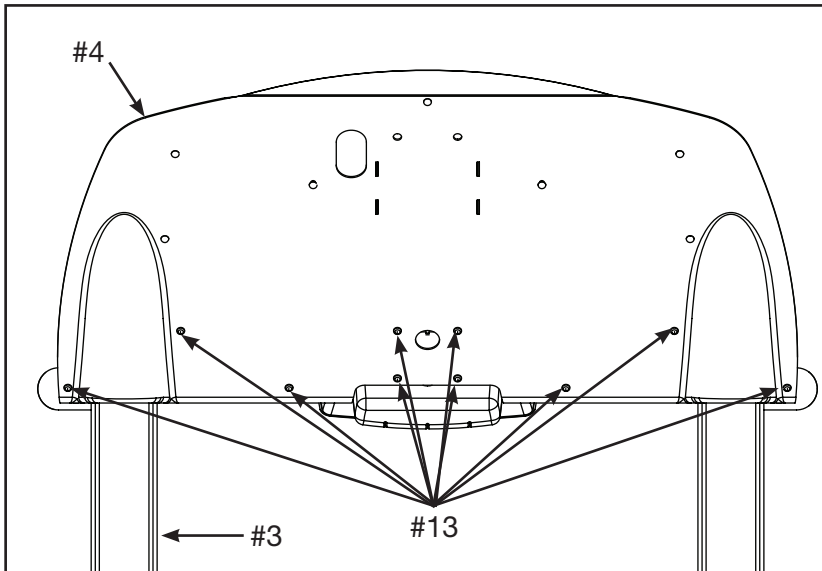

Figure 6
**D.** Using a Philips head screwdriver secure the console back (#4) to the upright assembly (#3) using ten screws 8-32 x .38" (#13). Fully tighten the two screws installed in step 7C. See Figure 6.